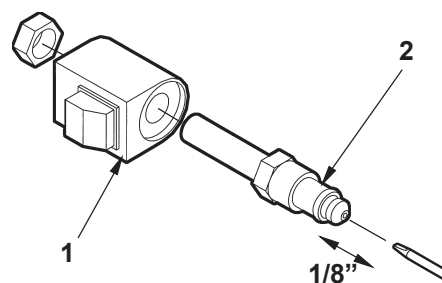

FIG. 3
2. Check the Valve Stem by removing the Coil Assembly (Item 1, FIG. 3). With platform on ground, unscrew the Valve Stem, (Item 2, FIG. 3) from the Pump. Push on the plunger that is located inside the Valve Stem by inserting a small screwdriver blade in the end. If the Plunger does not move freely (approximately 1/8") replace the Valve Stem. **When re-installing valve stem, torque hex nut to 30 in-lbs.**